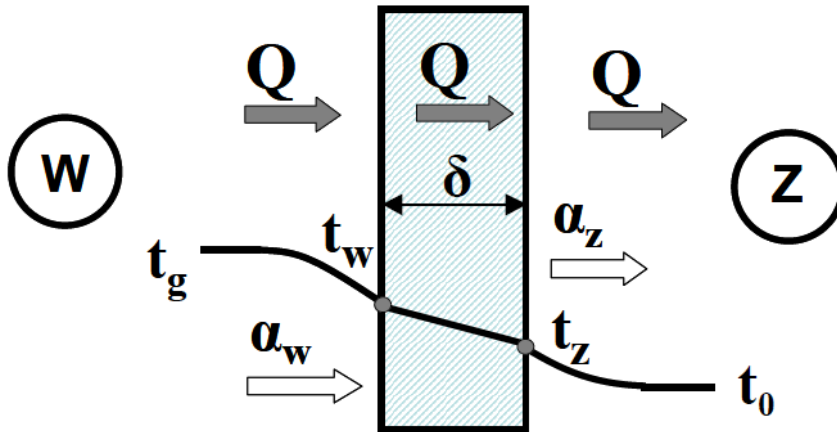

Fig 1 The heat transfer mechanism
Depending on the system properties the heat transfer can be separated on three main mechanisms. Namely: conduction, convection and radiation. In many cases those three transfer arises simultaneously, however usually one is more dominant than the others. The heat transfer is usually express by one proportionality coefficient which involves a heat transfer mechanism. The heat transfer (heat penetration) is expressed by the amount of energy delivered from the medium inside (w) through a wall to the outer medium (z) (*see figure 1*)
Taking single wall (as in figure 1) into consideration the heat transfer mechanism is composed of the heat acquired by the wall from the (w) medium, and heat acquired by the (Z) medium from the wall. In such a case the heat emitted through the wall is characterised by so-called heat transfer coefficient “k” also known as Peclat coefficient and is given by:
Hot air, with temperature “ t_g ” goes up along vertical rectangular channel. Walls of the channel are not thermally insulated, and because of this, some portion of heat escapes through the wall from inside to environment with temperature “ t_o ” (fig.1). Inside of channel, heat penetrates wall in forced convection. Outside, the heat is given up to the environment by means of natural convection and radiation. There are sensors in the test stand to measure necessary parameters as follows: - sensor of heat flux to measure density of thermal flux “ q ” through the wall, - thermocouples to measure temperature of inside surface of wall “ t_w ”, outside surface of wall “ t_z ”, hot gas inside channel “ t_g ”, ambient temperature “ t_o ”.